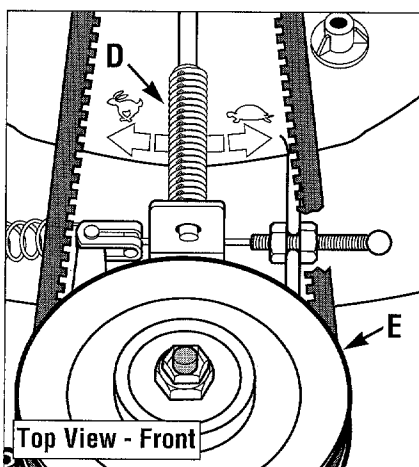

Figure 5-1: Factory setting of wheel speed.
The forward speed for this model was set at approximately 2-1/2 mph at the factory. See the factory setting shown in Figure 5-1. A slower or faster speed can be set by following these instructions:
E. For a reference point, push the pulley (**E**) toward the rabbit symbol and note the location of the adjustment rod spring (**D**) in relation to the turtle and rabbit. The spring should be positioned similarly to the one shown in Figure 5-1.